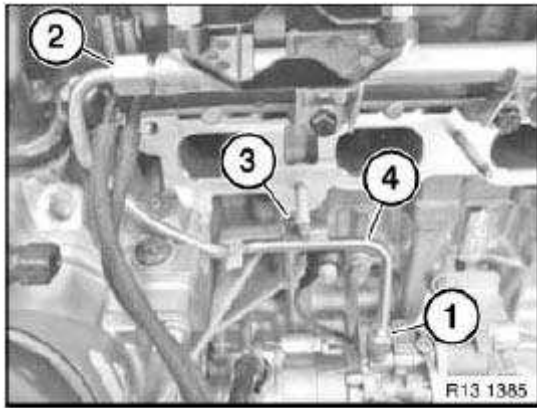

Fig. 7: Identifying High-Pressure Line With Screw
This prevents twisting when high-pressure line (4) (Fig. 7) is tightened.
In so doing, tighten screw connections (Fig. 7) hand-tight only (it must still be possible to move the high-pressure line at the holder).